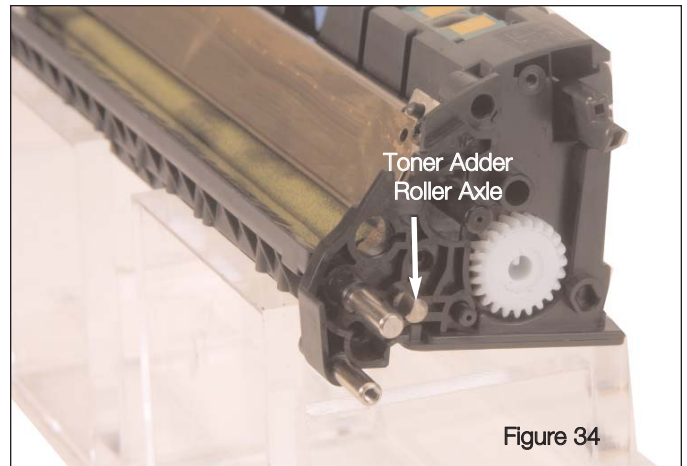

Figure 34
- c. Place the support plate first on the end of the Toner Adder Roller axle as shown in Figure 34; then, align the guide post with the hole in the support plate and slide the support plate in to place.